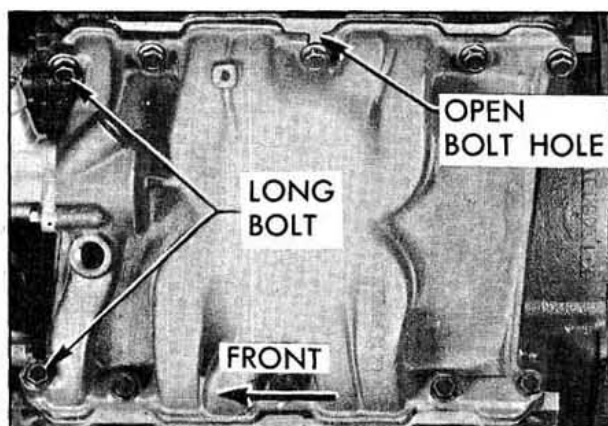

Fig. 3-15 Intake Manifold Installation
4. Install manifold attaching bolt in open bolt hole as shown in Fig. 3-15. Open bolt hole is held to close tolerances and the bolt in this location serves to locate the manifold fore-and-aft.